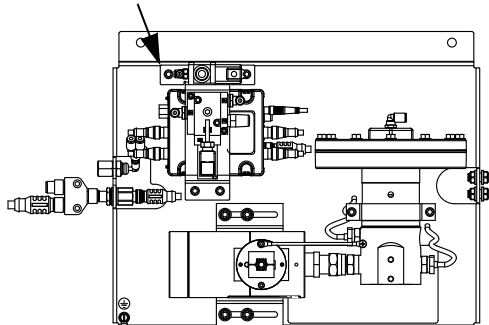

FIG. 44: Dispense Valve Air Solenoid
4. If the dispense valve cannot be actuated from the control center, refer to FIG. 44 and perform the following steps to open the dispense valve and relieve fluid pressure:
- a. Manually actuate the plunger on the solenoid to open all dispense valves attached to this fluid plate and relieve fluid pressure. See FIG. 44.